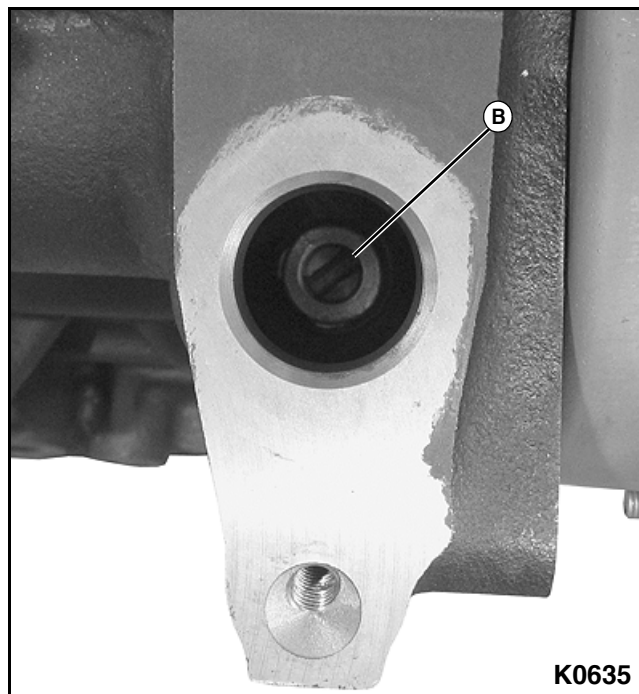

Figure 3-107
2. Install oil pump drive to cylinder block and align slot in oil pump (B) with tab on bottom of pump drive. **See Figure 3-107.**